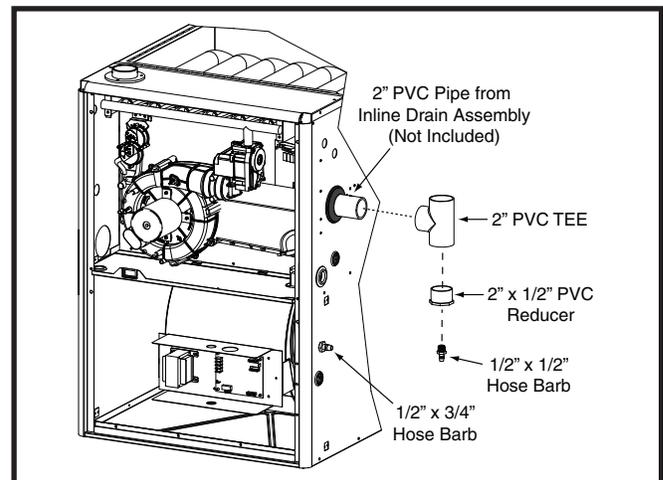

Figure 19. PVC Tee (2"), Reducer & Hose Barb
The 2" PVC tee, reducer, and hose barb are used when the inducer is rotated to vent out thru the left or right side of the furnace cabinet. See Figure 19.
- The 2" PVC pipe shown in Figure 19 is not provided in the extra parts bag.